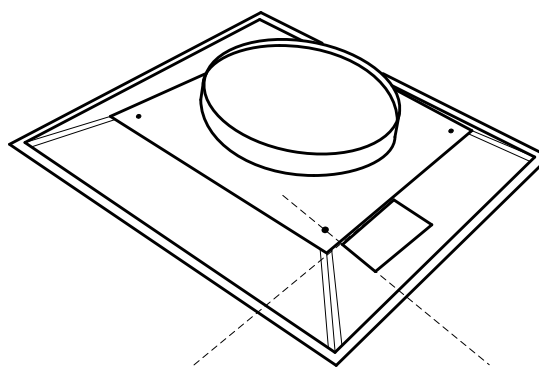

Fig. 3
7. With the terminal box sitting on the slope of the back of the housing, align one edge of the terminal box with the screw on the flat of the housing and the other with the bend between the slope and the flat of the housing (see Fig. 3).